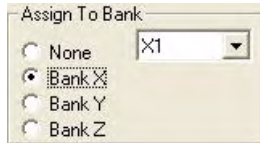

FIG. 62 Assign to Bank window
1. Choose **Button 1** to configure (in the *System window*), and select **Button> Bank Assign**. This invokes the *Assign to Bank* window (FIG. 62):